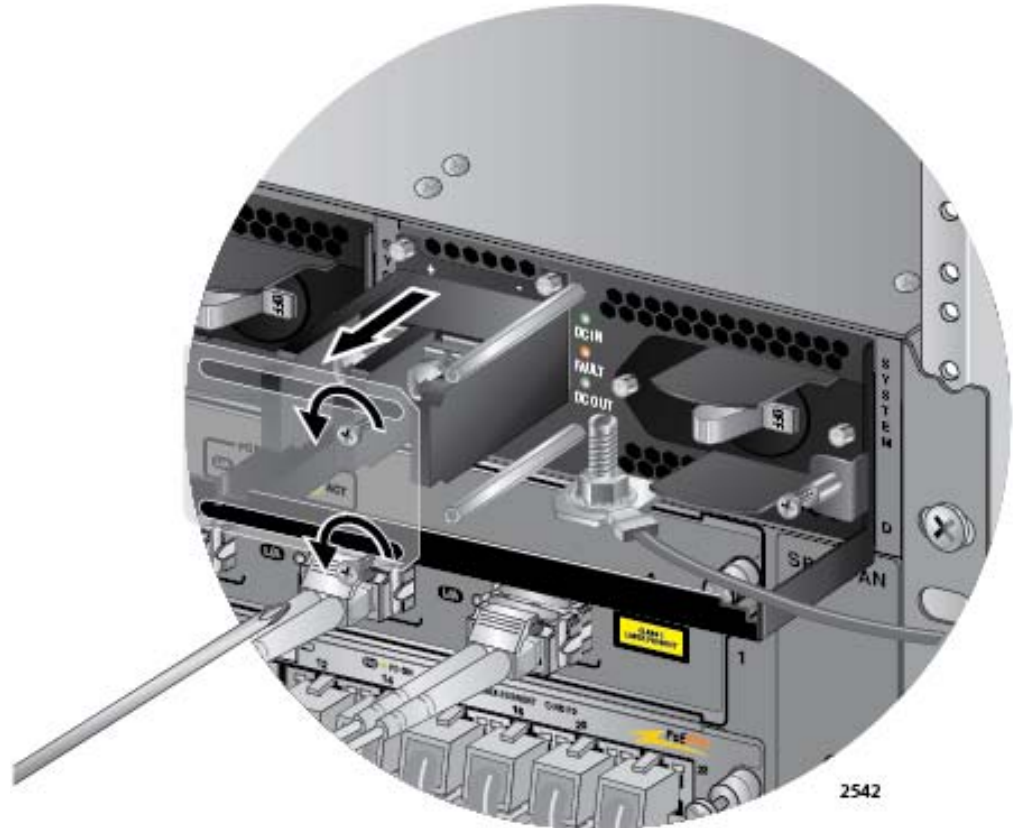

Figure 144. Removing the Plastic Cover
- Using a #1 Phillips-head screwdriver, remove the two screws that secure the plastic cover over the positive and negative terminals and remove the plastic cover from the power supply, as shown in Figure 144. You may need to lift the locking handle slightly to access the bottom screw.